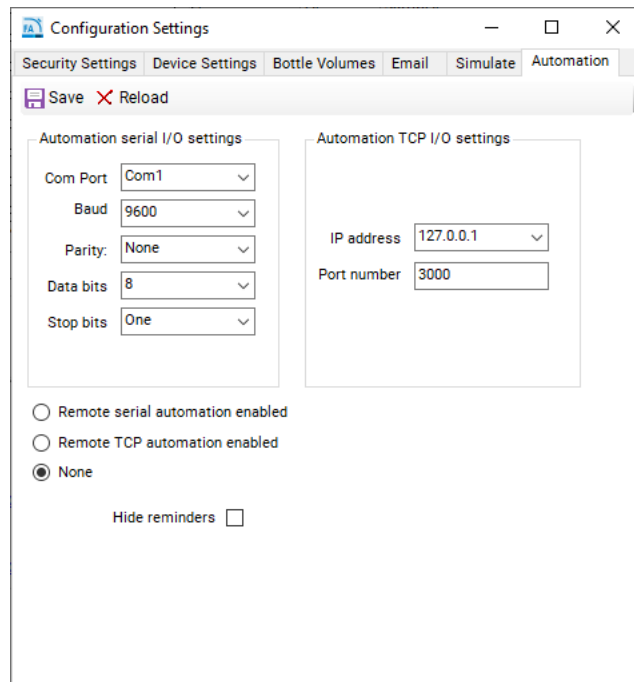

Figure 118 5400 Fragment Analyzer Automation configuration menu
- 2 From the **Admin** menu, select **Configuration**. The **Configuration Settings** window will open (Figure 118).
- 4 To enable serial port communication, select **Remote serial automation enabled** and ensure the parameters are set to those specified in section “**5400 Fragment Analyzer Communication Specifications**” on page 165, and shown in Figure 118.